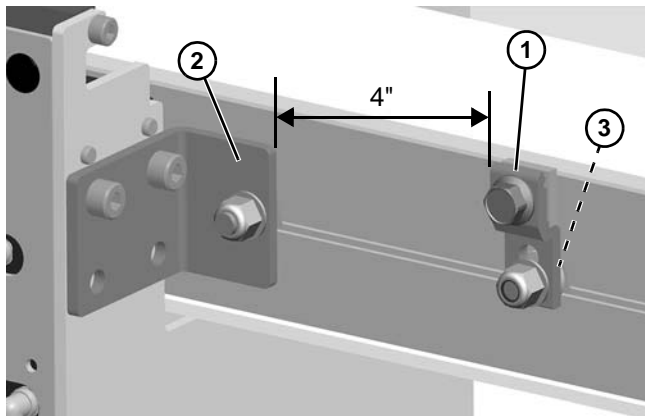

**Figure 12**
7. Place pallet (**Figure 12, item 1**) on lift and locate (**Figure 12, item 2**).
8. Install pallet stop (**Figure 12, item 3**). Position against pallet.